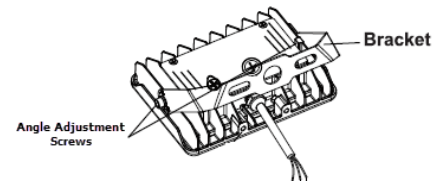

Figure 3
- 8: Loosen (2) angle adjustment screws on both sides of fixture. (Figure 3)